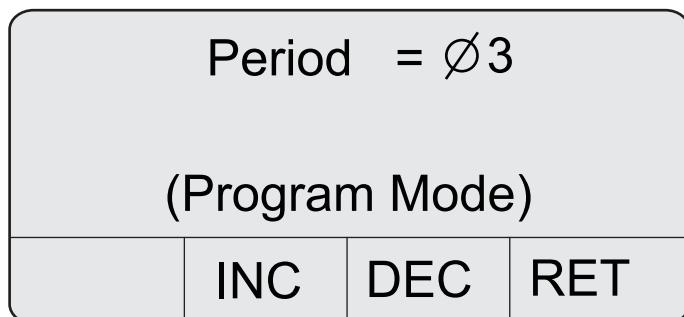

Figure 21 Period screen
5. Press 4 (RET) to display the Period screen in the Program mode (refer to Figure 21 on page 26).